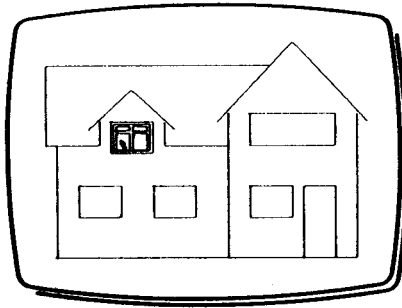

Fig 7
- 23 **Select PAGE from the Menu. The complete drawing will appear at base page scale, as in Fig 7. You can now zoom on another part of the house, adding details as you wish.**